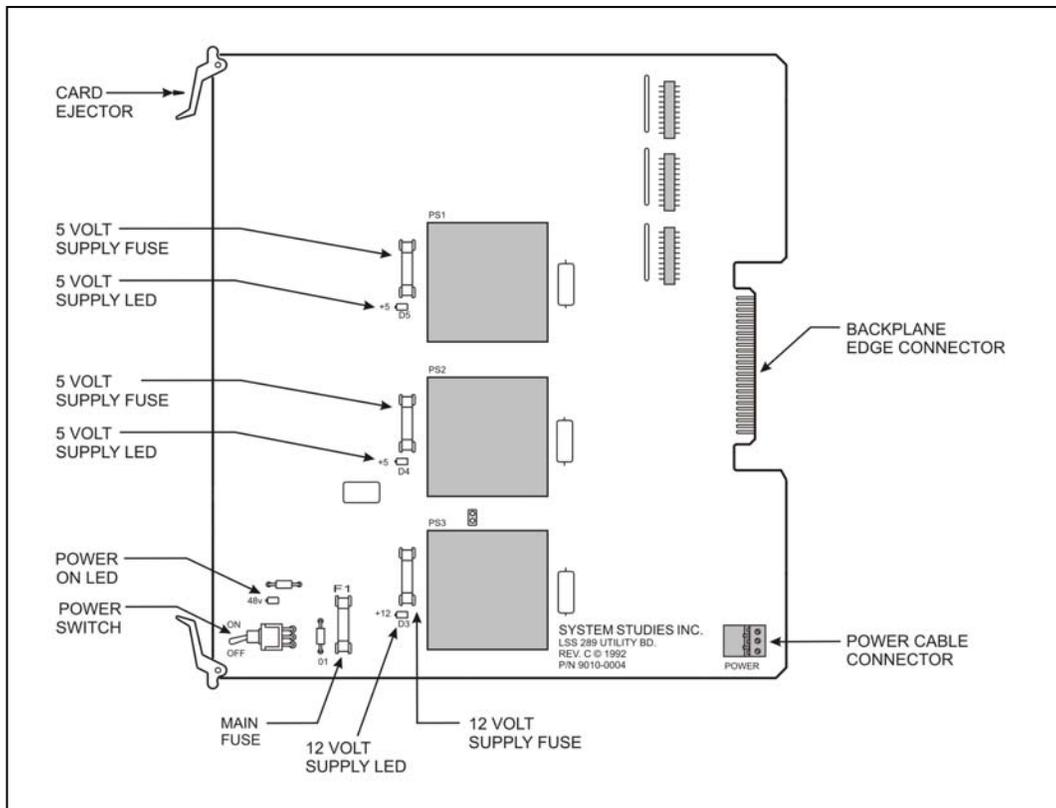
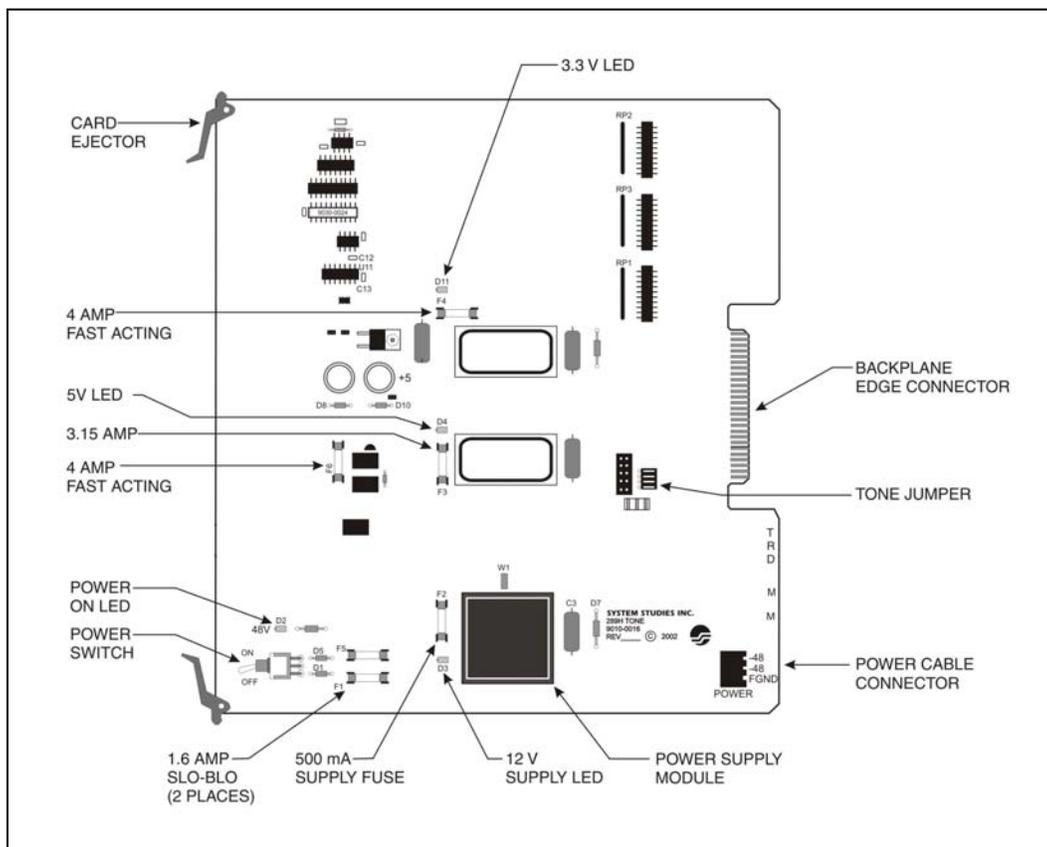

FIGURE 5-3: STANDARD UTILITY CARD
FIGURE 5-4: TONE UTILITY CARD
3. Verify that the 3 LEDs in the middle of the Utility Card are on. Refer to FIGURE 5-3 or 5-4 for the location of the LEDs. On the Tone Utility Card the LEDs are labeled D3 (Diode 3), D4, and D11 (see FIGURE 5-3). On the older Utility Card the LEDs are labeled D3, D4, and D5 (see FIGURE 5-4). If any of these LEDs is out, either the fuse is blown or the power supply is faulty. In this case, first replace the fuse as described below starting at step 4. If the LED does not come on after replacing the fuse(s), call System Studies Technical Support for further assistance.
5. Identify the fuse that needs to be replaced. When a fuse has blown, the metal strip that is in the fuse is usually broken. Pull the fuse out of the clips that hold it in the card and insert a replacement fuse with the same amp rating. Refer to FIGURE 5-3 or 5-4 for the location and size of fuses used on the 289H-M Utility Card.